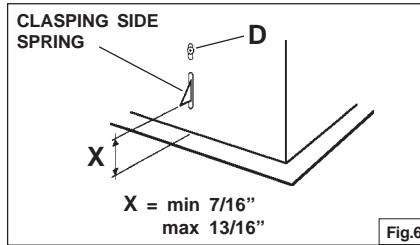

Fig.6
3. Adjust the position of the clasping side spring by turning the "D" screw according to the thickness of the cabinet to which it is going to be anchored (Fig.6).